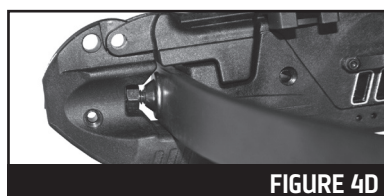

FIGURE 4D
5. Insert the disc pressure pad into the nose cone and ensure the plate is flush against the center of the limb. The disc pressure pad should now be between the limb and hex nut, as shown in Figure 4D.